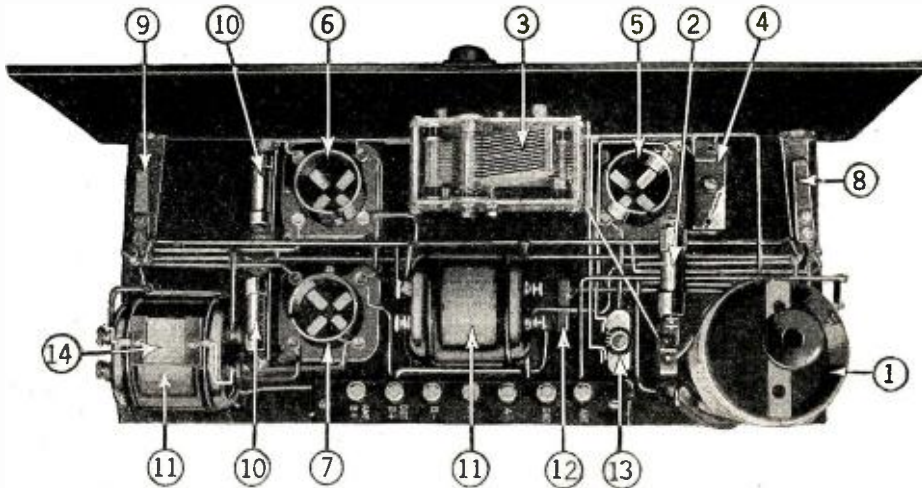

Fig. 6. View from above of the complete 3-tube set. All figures given here are identical with key figures in illustrations 4 and 8. Note simplicity of wiring.
One of the critical adjustments of the set is the carbon rheostat (13). Wire-wound rheostats are not advised by the author. This rheostat adapts almost every crystal to its tube. If the set tends to over-oscillate, that is, squeal or howl, slight adjustment of condenser (4) will bring the set to its best operation. Keep all wires away from crystal detector (2) as much as possible, an inch or more. Mount crystal detector as high as possible, as shown in Fig. 6, with wiring underneath at least an inch to an inch and a half away from the crystal detector. Another feature of this wiring diagram is that as you go along and wire two points, run a colored pencil over the black and white dash and dot lines. When all lines are thus colored, your wiring is complete.